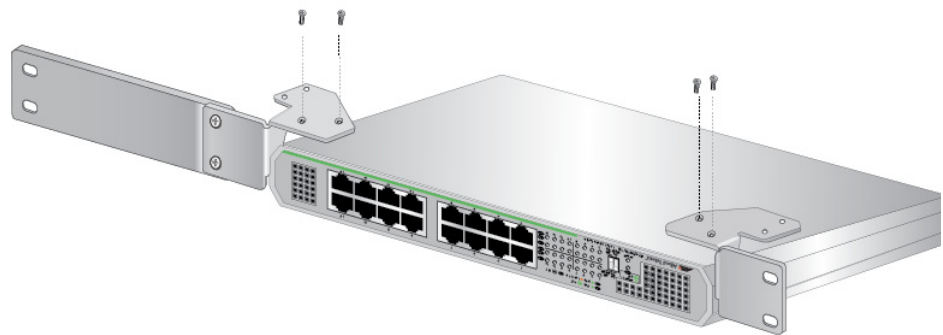

Figure 27. Attaching the Brackets to the Switch
- Attached the brackets to the switch with the M3x6mm screws using a Phillips-head screwdriver. See Figure 27.